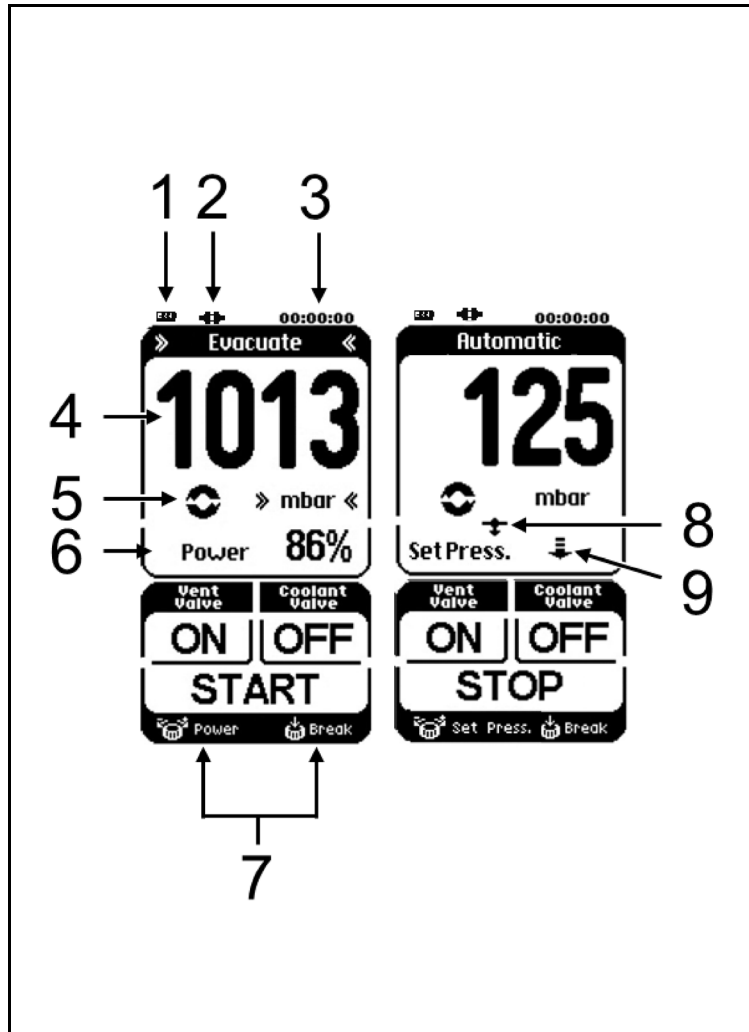

Fig. 8: Display on the touchscreen
- Display of the most important process variables (Fig. 8, page 24).